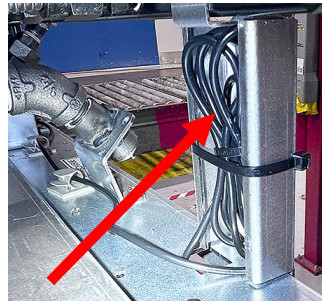

Figure 16
19. Tie up excess proximity harness wire into the upright support and secure with zip tie(s) (see Figure 16).